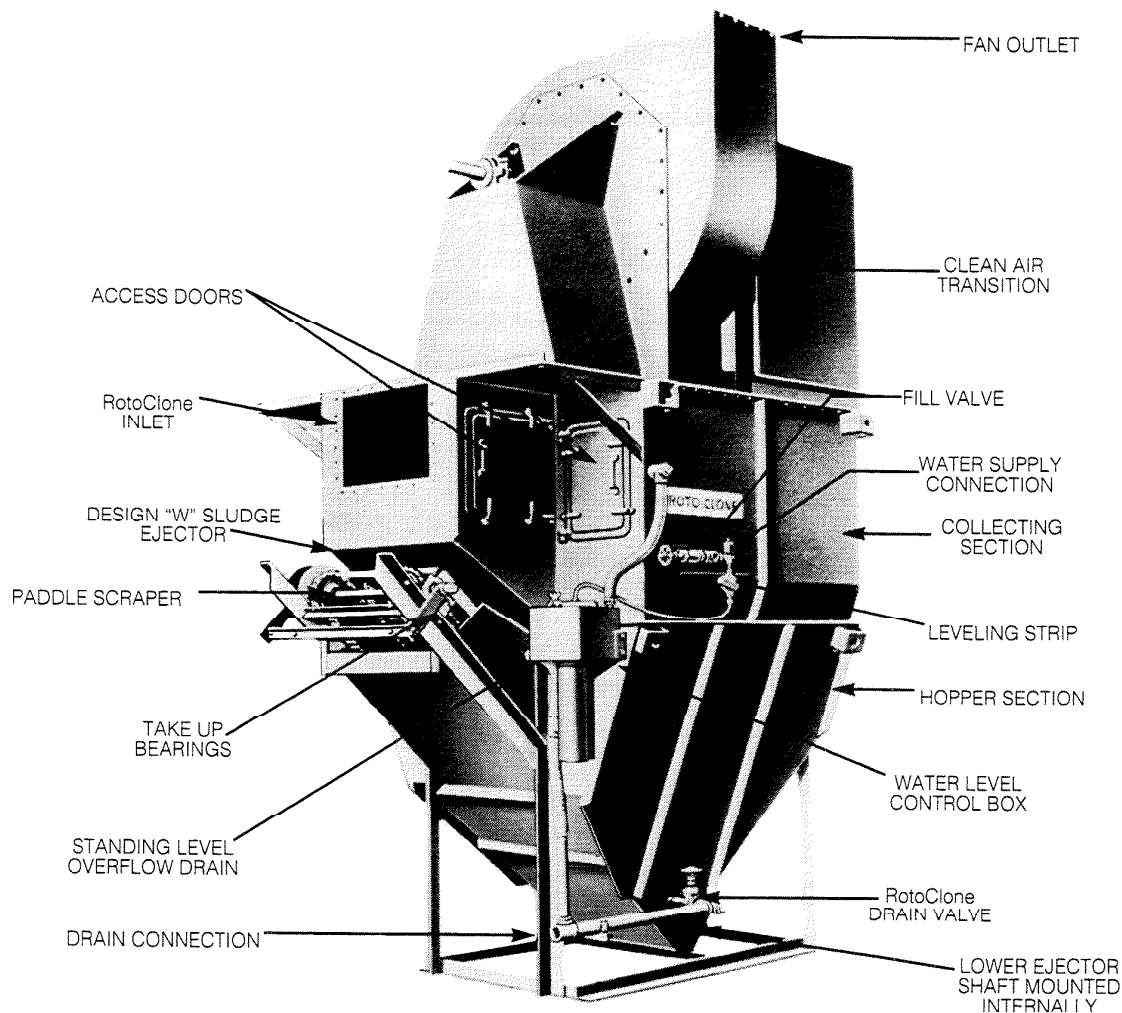

FIG. 4. Typical Type N RotoClone with Design "W2" Ejector.
Connect a 1" line for Sizes 1½ thru 6 or a 2" line for Sizes 8 and larger at point shown on Figure 4.
Connect a 2" drain line for Sizes 1½ thru 12 or a 4" drain line for Sizes 16 and larger at point shown on Figure 4.
The Model "SV" and Model "SV" with low water safety switch contain a flow control valve in the makeup water controls (see Figure 4 or 5). It will deliver a continuous water flow rate to the water level control box at a minimum water pressure of 10 psig. Should the flow rate not maintain the water level due to the materials being sludged out, report to your AAF representative who can provide a replacement.
1. Be certain Gate Valve in RotoClone drain (Figure 4) is closed.
2. Open Fill Valve (Figure 7) and add water until it reaches the standing level overflow drain (Figure 4) connected from side of ejector chute to drain by a rubber hose.
- 1) Type "W2" ejector (Size 1½ thru 12) chains should be checked weekly. Take up slack in both ejector chains evenly by moving the upper bearings from the lower bolt hole to the upper bolt hole (Figure 4). If the slack remains, remove one link and move the bearing back to the lower